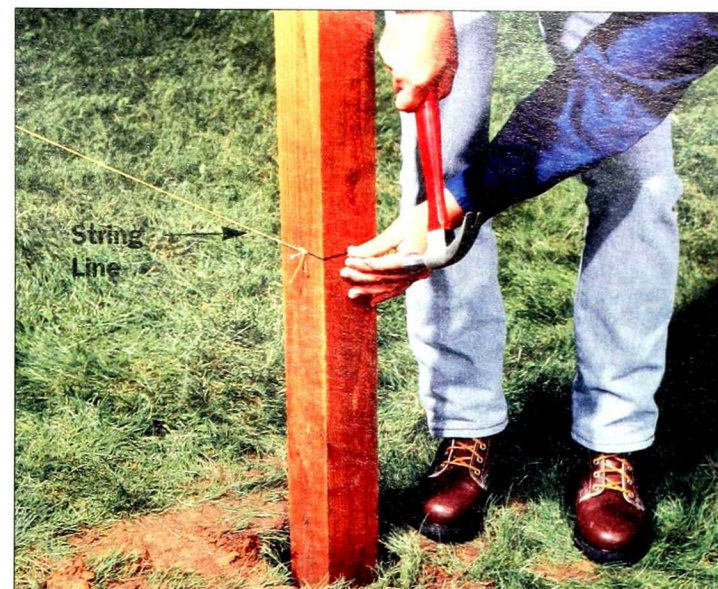

Figure 3: Set a string line between the corner and end posts at the height of the lower 2x4 stringer. Mark the other post locations with a felt-tip pen.
- Tie a mason's string line between your corner posts and end posts, at the height of the bottom of the lower stringer (Figure 3). This string will be used to locate all the other posts, so pull it tight and check its position twice.